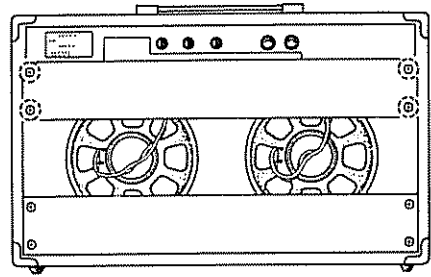

Figure 1
1. Remove the 4 screws securing the rear cover, as shown in Figure 1.